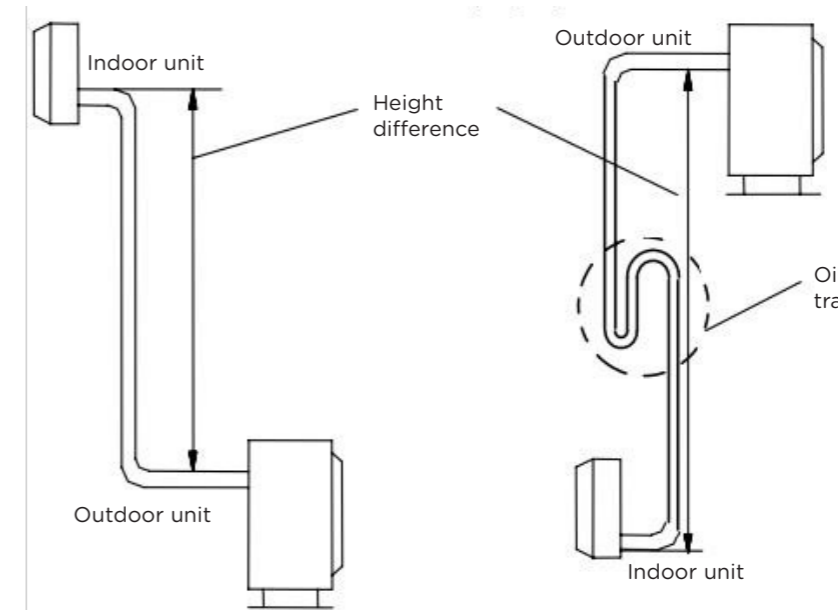

Fig.3
- If the installation position of the outdoor unit is higher than the indoor unit and the pipes are longer than 10 m, add an oil separator to the gas pipe every 8 m (Figure 3).